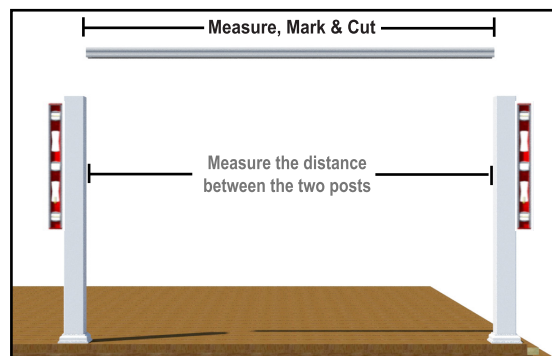

Fig. 7
- Place your posts where desired and then measure the distance in between the two posts. (See Fig. 7)